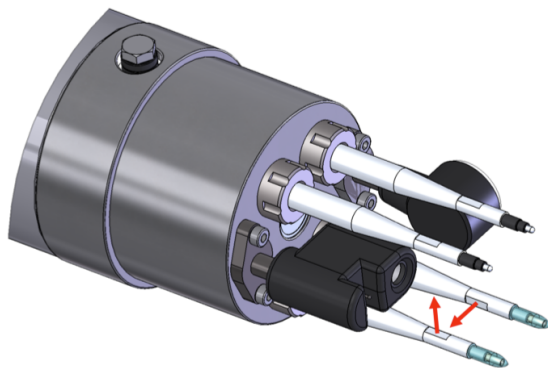
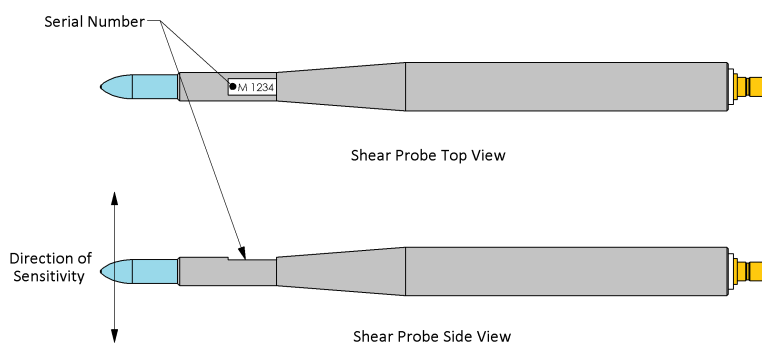

Figure 13: Orthogonal alignment of the shear probes.
Figure 14: Shear probe direction of sensitivity.
3. As you tighten the probe holders, ensure that the shear probes are oriented correctly (Figure 13). Typically, one shear probe is aligned with the instrument's x-axis (through the magnet), and the other with its y-axis (Figure 2). The sensitivity on a shear probe is in the direction normal to the flat section of the sensor's serial number (Figure 14).
4. In your deployment notes, record the serial numbers (Figure 14) of the microstructure sensors you have installed in each port. If possible⁹, update your configuration file with their respective serial numbers and their sensitivities (if they are provided for that given sensor).